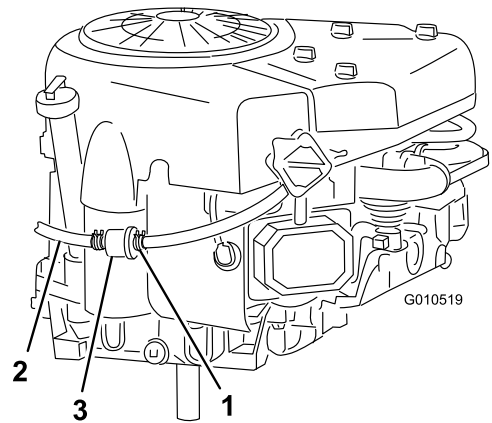

Figure 30
7. Squeeze the ends of the hose clamp together and slide it up the fuel line toward the fuel tank (Figure 30).
8. Pull the fuel line off the fuel filter (Figure 30) and allow the gasoline to drain into an approved fuel container or a drain pan.
10. Slide the hose clamp close to the fuel filter to secure both the fuel line and the fuel filter (Figure 30).
The best time to replace the fuel filter (Figure 30) is when the fuel tank is empty. Never install a dirty fuel filter after it has been removed from the fuel line.